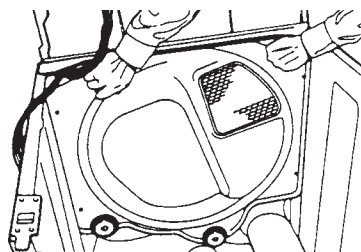

Fig. 4-42
6. Slide rear bulkhead assembly up and out of dryer. (Fig. 4-42)